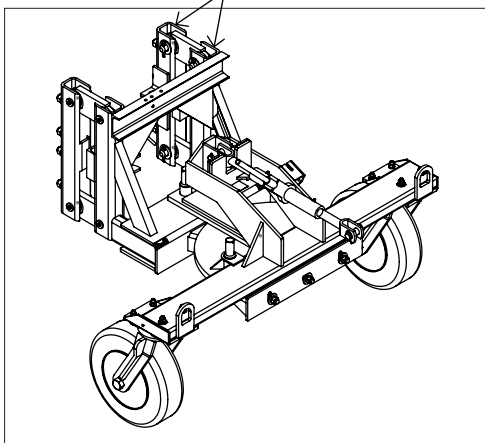

figure 1
3. Adjust the loader arms so the tops of the U-channels on the sweeper and the tops of the U-channels on the loader arms are even (figure 1).
4. Raise sweeper and back away; switch off engine and remove key. The brush pattern left in dust should be 2-4 inches (51-102 mm) wide, running the length of brush. (Compare swept area with figure 1.)
- a. Slide the first section onto the core with the drive pins on each side of a tube. Make sure that the drive pins angle up. (figure 1)